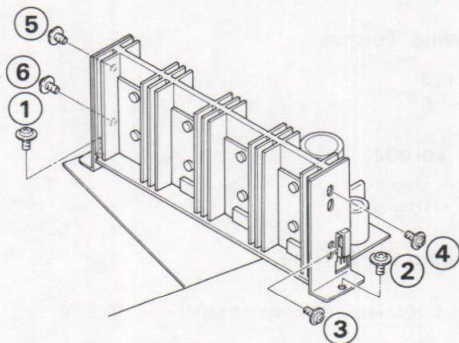

Fig. 9
- 1) Remove 6 screws, (1) and (6). (Refer to Fig. 9)
- 2) In order to prevent the dial cord from slipping off the dial drum when removing the tuner circuit board, loosen setscrew and as shown in the figure, set dial drum on raised tab of chassis. (Refer to Fig.11) (Refer to Fig. 9).